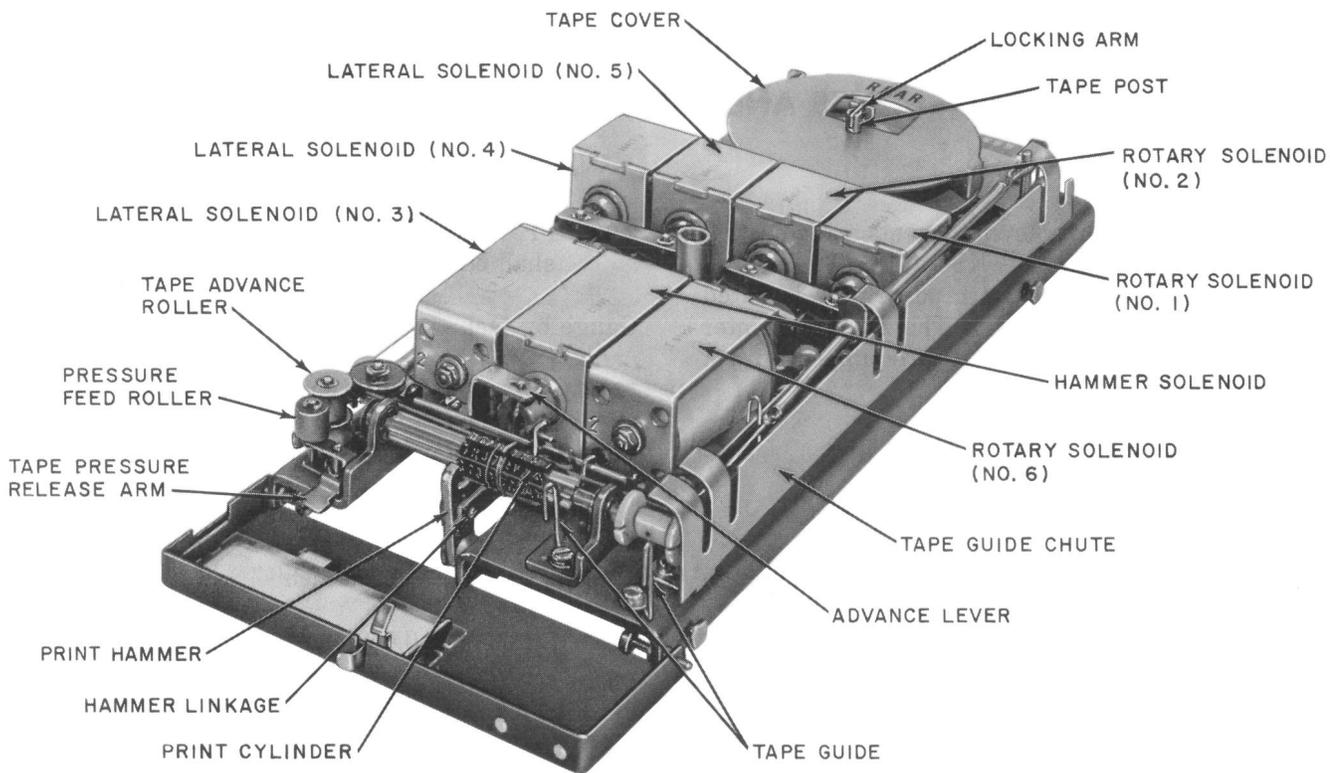

Fig. 1—KS-19717 L6 Tape Printer—Cover Removed
1.05 To show the location of component parts, the KS-19717 L6 tape printer with cover removed is illustrated in Fig. 1.